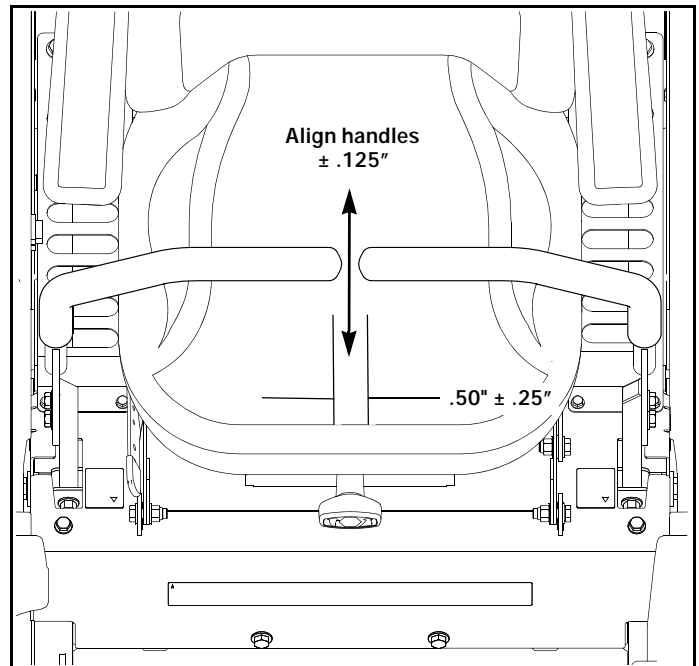

Figure 4-6
- From that point, turn the steering rod back again ½ turn. This ensures that the steering rod is adjusted so that the transmission control arm is centered in the neutral band of the transmission. Figure 4-6
- The steering control levers should be adjusted so that they align within $\pm .125"$ of each other when in the neutral position. Figure 4-6
NOTE: The space between the ends of steering control levers should be $.50" \pm .25"$. Figure 4-6